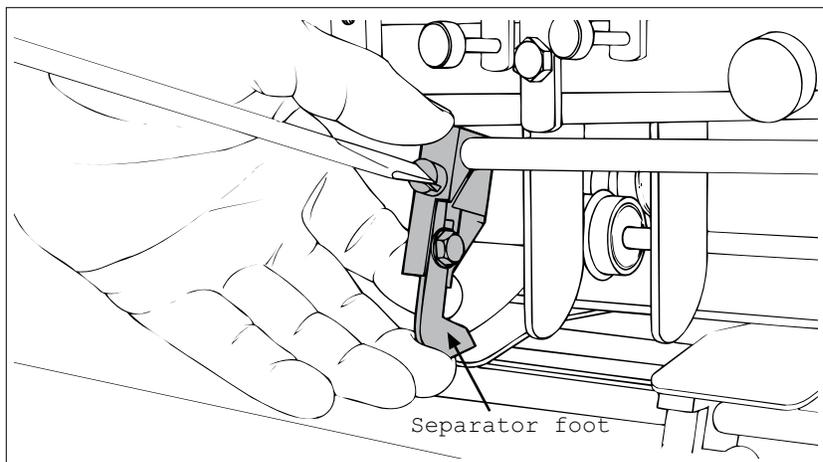

Figure 2-10. Repositioning Separator Foot at Front of Inserter
2. With a screwdriver, loosen the inserter separator foot and tilt away slightly from insert station assembly (opposite feeder) so that foot does not interfere with material being fed (Figure 2-10).